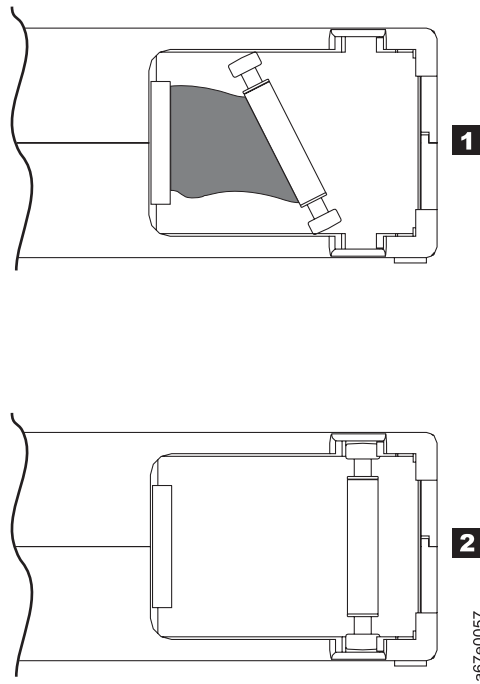

Figure 9-7. Leader pin in the incorrect and correct positions. The cartridge door is open and the leader pin is visible inside the cartridge.
- Do not drop the cartridge. If the cartridge drops, slide the cartridge door back and ensure that the leader pin is properly seated in the pin-retaining spring clips (see **2** in Figure 9-7 on page 9-13). If the leader pin has become dislodged, go to “Repositioning a Leader Pin” on page 9-12.
A leader pin that is improperly seated inside a cartridge can interfere with the operation of the drive. Figure 9-7 shows a leader pin in the incorrect **1** and correct **2** positions.